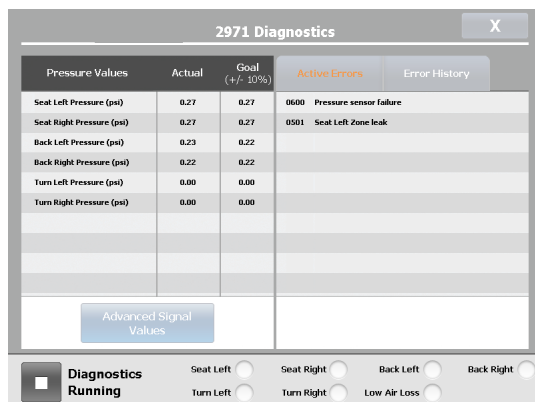

Figure 47: Diagnostic Main Screen - Sample
**Note: Diagnostics running** (Figure 47) appears to indicate that the diagnostic test is in progress.
To cancel diagnostics, tap **stop** on the lower portion of the Diagnostics screen (Figure 47).